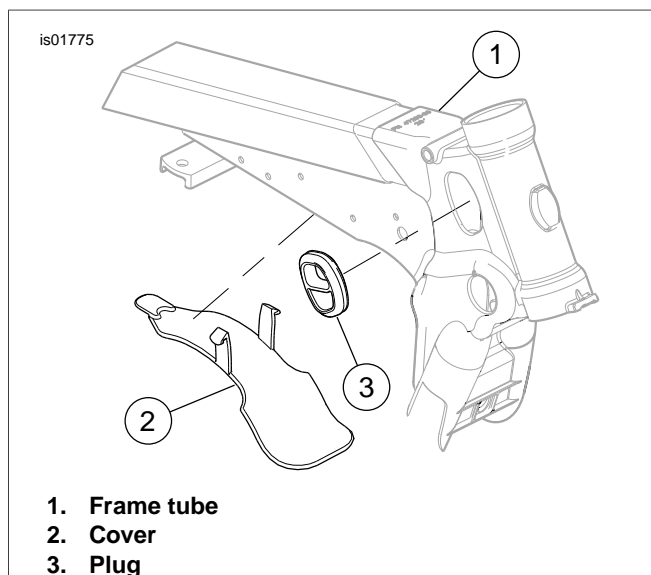

Figure 5. Dyna Top Frame Tube (2006-Later)
- 2006-Later FXD:* See Figure 5. Remove cover under top frame tube, then pull connector out from opening under tube.